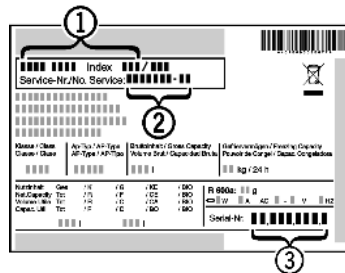

Fig. 13
- ▶ Read the appliance designation Fig. 13 (1), service No. Fig. 13 (2) and serial No. Fig. 13 (3) off the type plate located inside the appliance on the left-hand side.
- ▶ Notify the customer service, specifying the fault, appliance designation Fig. 13 (1), service No. Fig. 13 (2) and serial No. Fig. 13 (3).